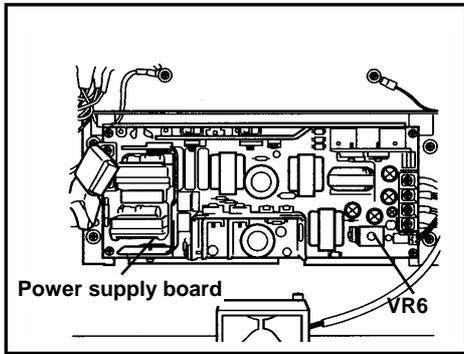

FIG.4
- (2) Turn power on.
- (3) If the 24V power supply differs from that specified, replace the power circuit board. [Refer to 『“4-7 Power supply board”』 on page 44].
- (4) If the 5V power supply (① ~ ⑦) differs from that specified, adjust power using VR6. (Fig.4)
- (5) Turn power off and mount the case cover.